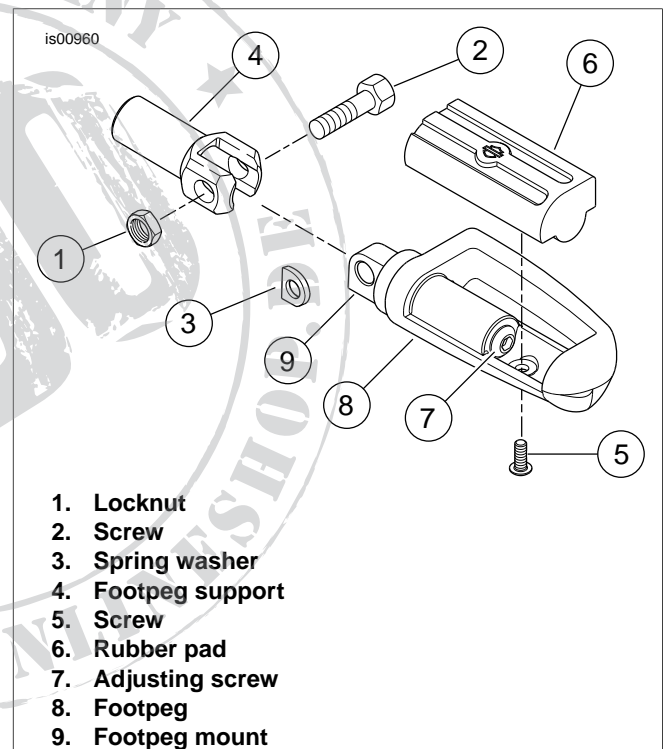

Figure 1. Custom Footpeg Installation
- See Figure 1. Remove locknuts (1) and screws (2) that hold existing footpegs in place. Save hardware for installation of new footpegs.
- Remove existing footpegs along with spring washers (3). Save spring washers for installation of new footpegs.
- Place a spring washer (3), along with the mount end of the footpeg, inside the slots of the footpeg supports (4).
- Secure each footpeg and spring washer with a screw (2) and locknut (1).